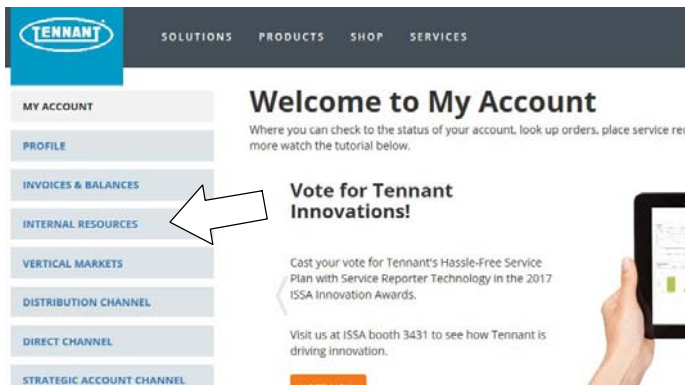

Fig. 16
2. Once logged in to the “My Account” website, click on the “INTERNAL RESOURCES” link as shown below (Figure 16).